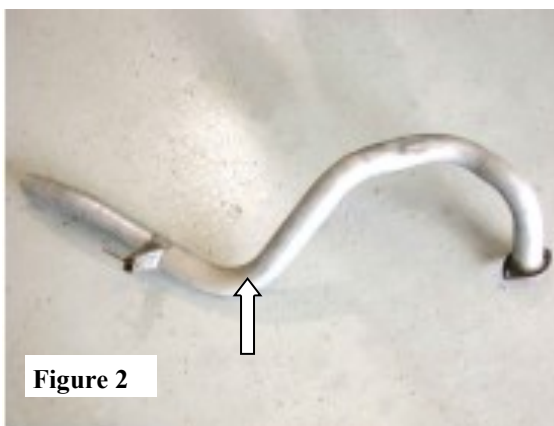

Figure 2
2. Remove the rear tail-pipe section from hangers and remove tailpipe from vehicle. (See Fig. 2)